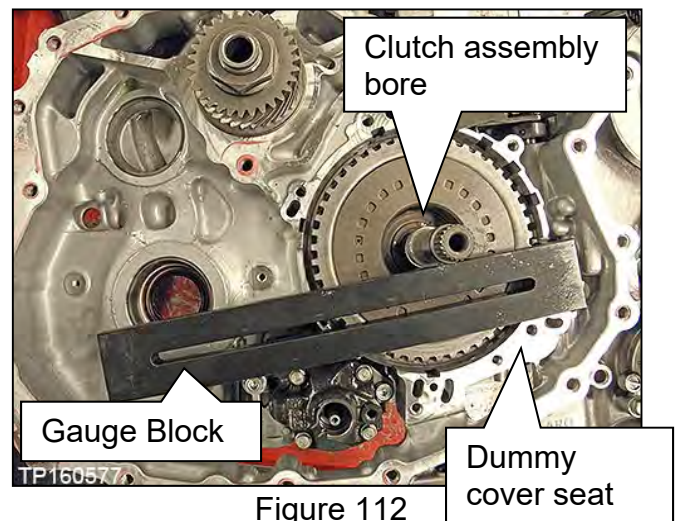

Figure 112
- a. Place the Gauge Block on the surface where the dummy cover seats and over the clutch assembly bore (Figure 112).